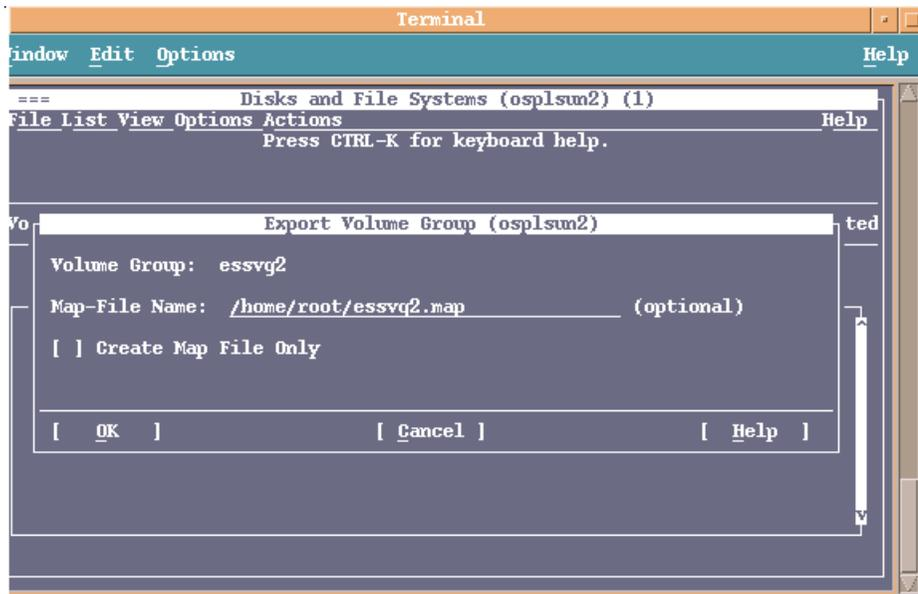

Figure 44. SAM's exportvg screen output
5. Export the volume group. You need to enter a file name (full path) where you want to store logical volume information for the volume group being exported. (Note: We did not put a file name the first time since it was optional. When we tried to import the volume group we got the error message that the map file missing. Then we tried again and the final screen display looks as follows (Figure 44), before we selected **OK**.)
14. Then tab to the next field and type in the map file name which was created while exporting the volume group. See Figure 44.